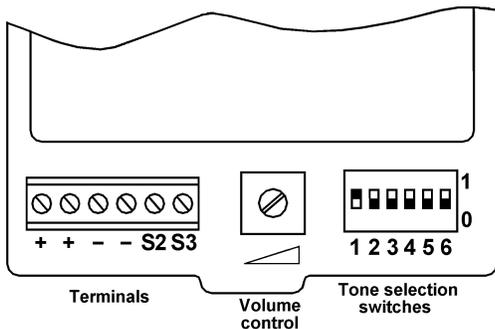

Fig 3 Location of field terminals and controls.
- Fit an appropriate 20mm cable gland or conduit entry into the untapped hole in the enclosure and connect the field wiring to the appropriate sounder terminals as shown in Fig 3. The power supply terminals + and – are duplicated so that sounders may be connected in parallel, or an end-of-line monitoring resistor may be fitted.
- Select the required output tone by positioning the six switches as shown in Table 1 and Fig 3.